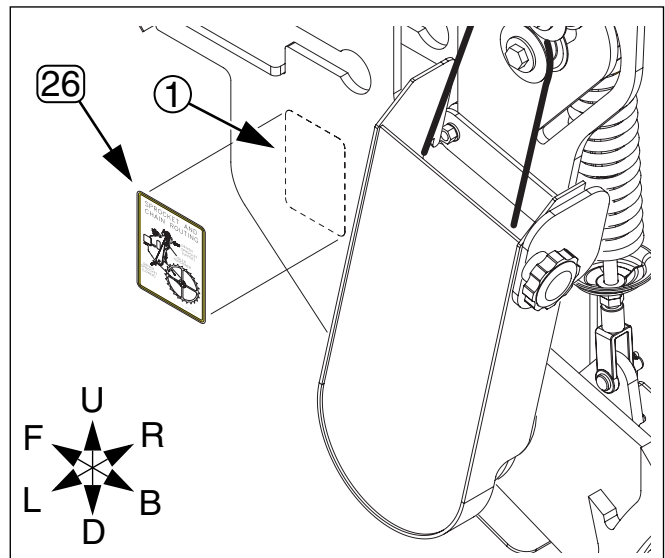

Figure 10
*Refer to Figure 10*
34. Clean and de-grease the forward outside surface ① of the left plate of the ground drive weldment. Make sure the area is completely dry before applying the decal.